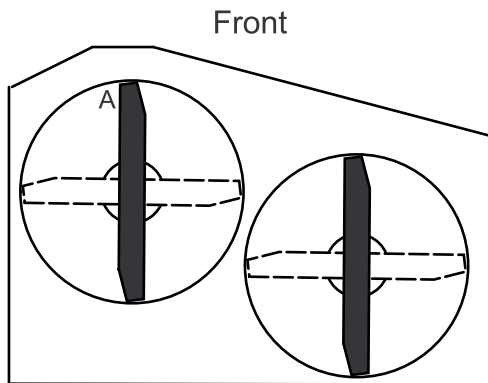

Figure 61
3. With the machine on level surface, position one blade front-to-rear. Measure at **A** and from level surface to the cutting edge of the blade tips (Figure 61).